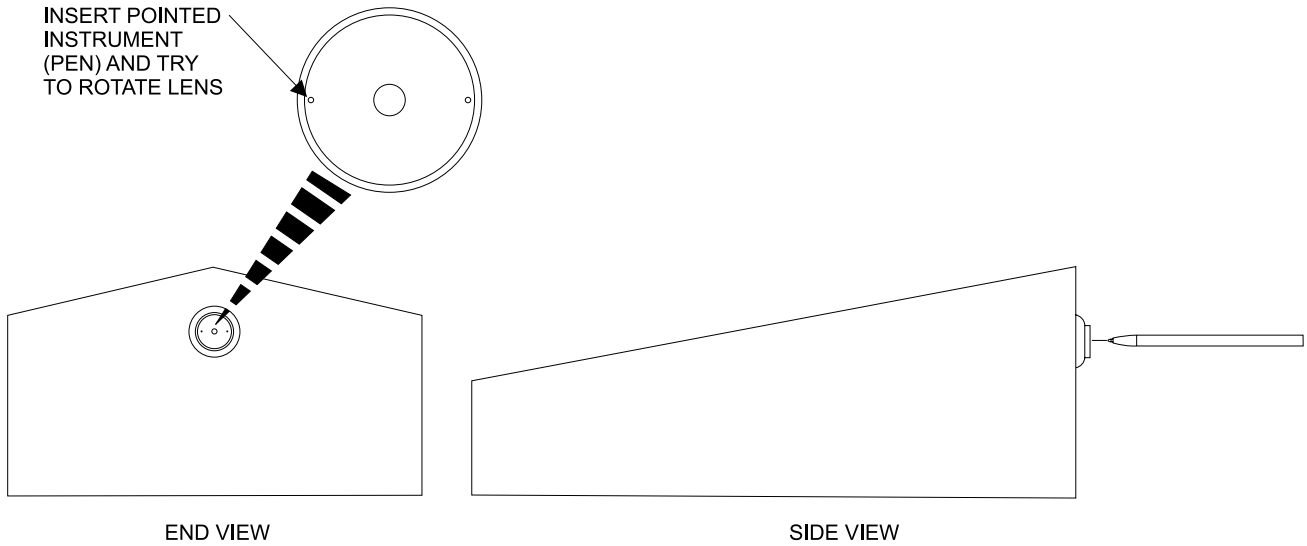

Figure 2
2. Insert a pointed instrument on the camera lens and try to rotate the lens. Refer to Figure 2.